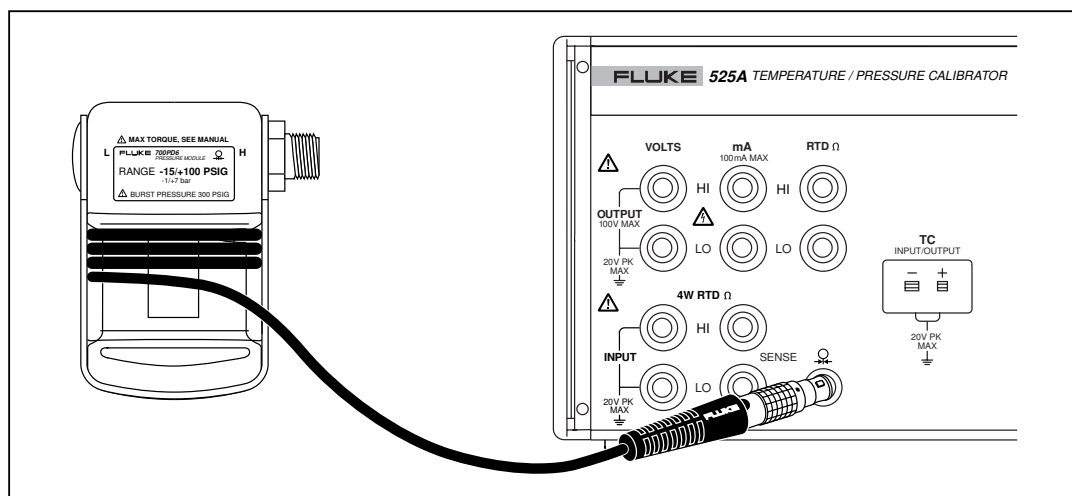

Figure 3-5. Connection for Measuring Pressure
To measure pressure, attach the appropriate pressure module for the process pressure to be tested as shown in Figure 3-5.
1. Connect a pressure module to the Calibrator as shown in Figure 3-5.